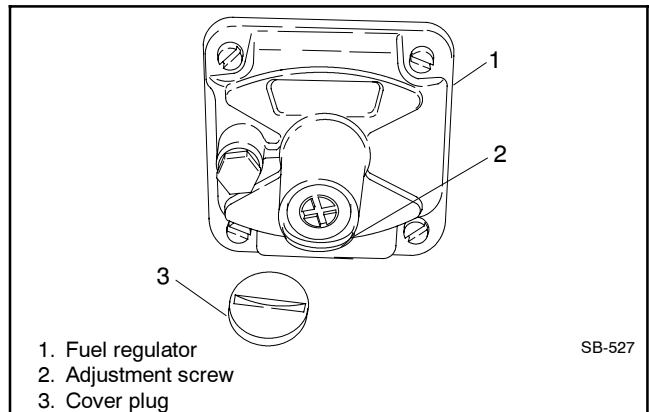

Figure 9-52 Fuel Regulator, Typical
- b. Adjust the fuel regulator adjustment screw to the approximate midpoint of its adjustment range. See Figure 9-52.